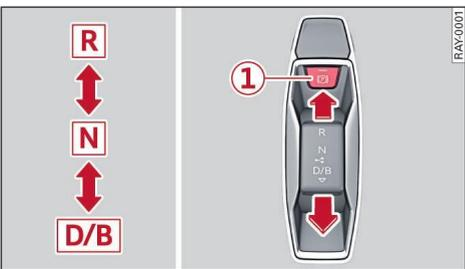

Fig. 60 Centre console: Selector lever
- ▶ Press the  button ⇒ *page 96, Fig. 60*. The parking brake will be applied. Transmission po-